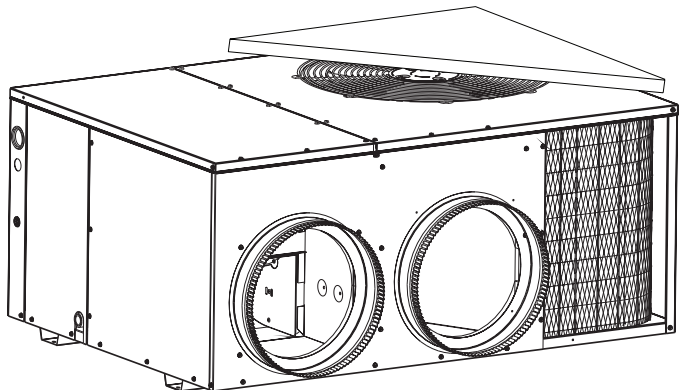

Figure 11. Q94RD With Fan Discharge Blocked Off
1. Block off the discharge of the outdoor fan. **NOTE:** One half of the unit should be covered corner to corner as shown in Figure 11.
3. Measure the outdoor dry bulb temperature (F) and indoor wet bulb temperature (F).